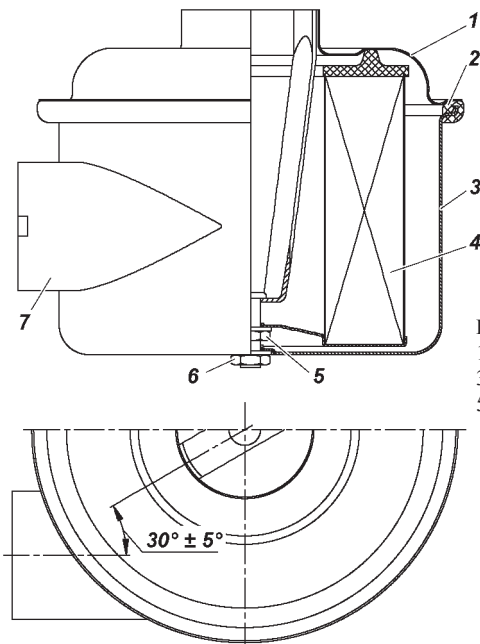

Fig.9.9. Air filter:
- unscrew nut 6 (Fig. 9.9) and take cover 1 with filter cartridge 4 out of the filter housing;
- install a new filter element, assemble the air filter installing the cover in relation to the body as shown in Fig. 9.9;